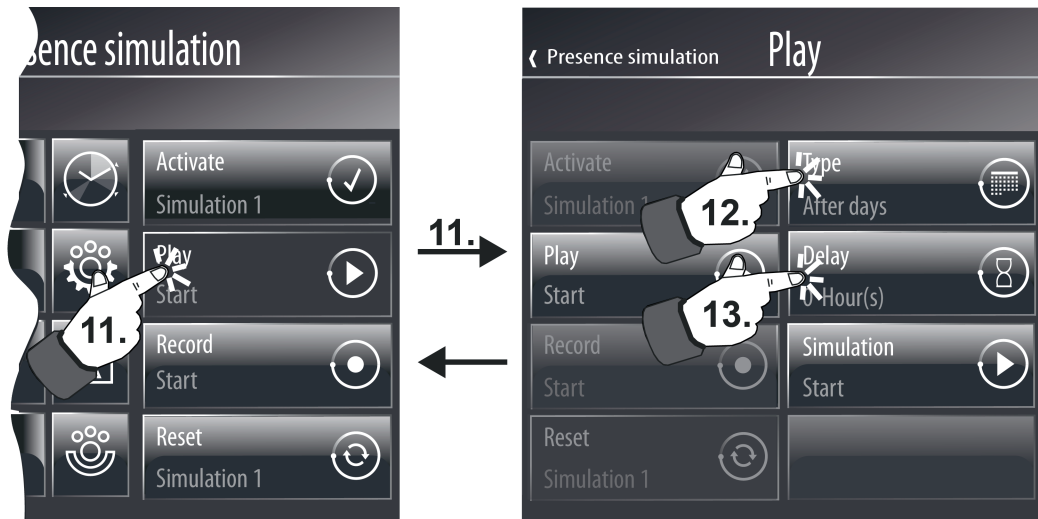

Figure 102: Example of a display page for setting the playback type and playback delay of a simulation (right)
A telegram sequence can be played back when the operating area (B) is pressed (11.). After that, 3 additional operating and display elements appear in the display (figure 102).
- i** The operating area (B) can first be operated when a telegram sequence has been recorded.